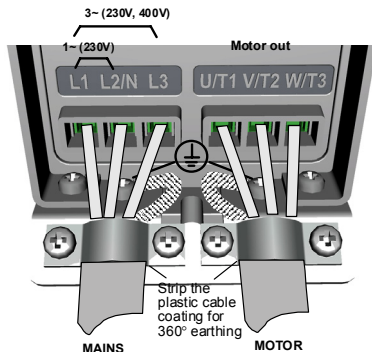
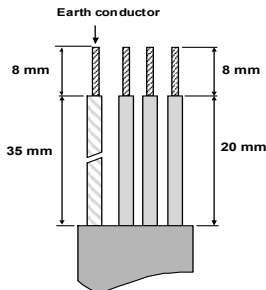

Figure 3.5: Vacon 10 power connections, MI1
Figure 3.10: Stripping of cables
4	Connecting the cables: <ul style="list-style-type: none"> <li>• Strip the motor and mains cables as advised in Figure 3.10.</li> <li>• Connect the mains, motor and control cables into their respective terminals, see Figures 3.5 - 3.9.</li> <li>• Note the tightening torques of power cables and control cables given in page 15 and page 17.</li> <li>• For information on cable installation according to UL regulations see Chapter 3.2.6 .</li> <li>• Make sure that the control cable wires do not come in contact with the electronic components of the unit</li> <li>• If an external brake resistor [option] is used, connect its cable to the appropriate terminal.</li> <li>• Check the connection of the earth cable to the motor and the frequency converter terminals marked with</li> <li>• Connect the separate shield of the motor cable to the earth plate of the frequency converter, motor and the supply centre</li> </ul>
**Note!** Strip also the plastic cover of the cables for 360 degree earthing. See Figures 3.5, 3.6 and 3.9.